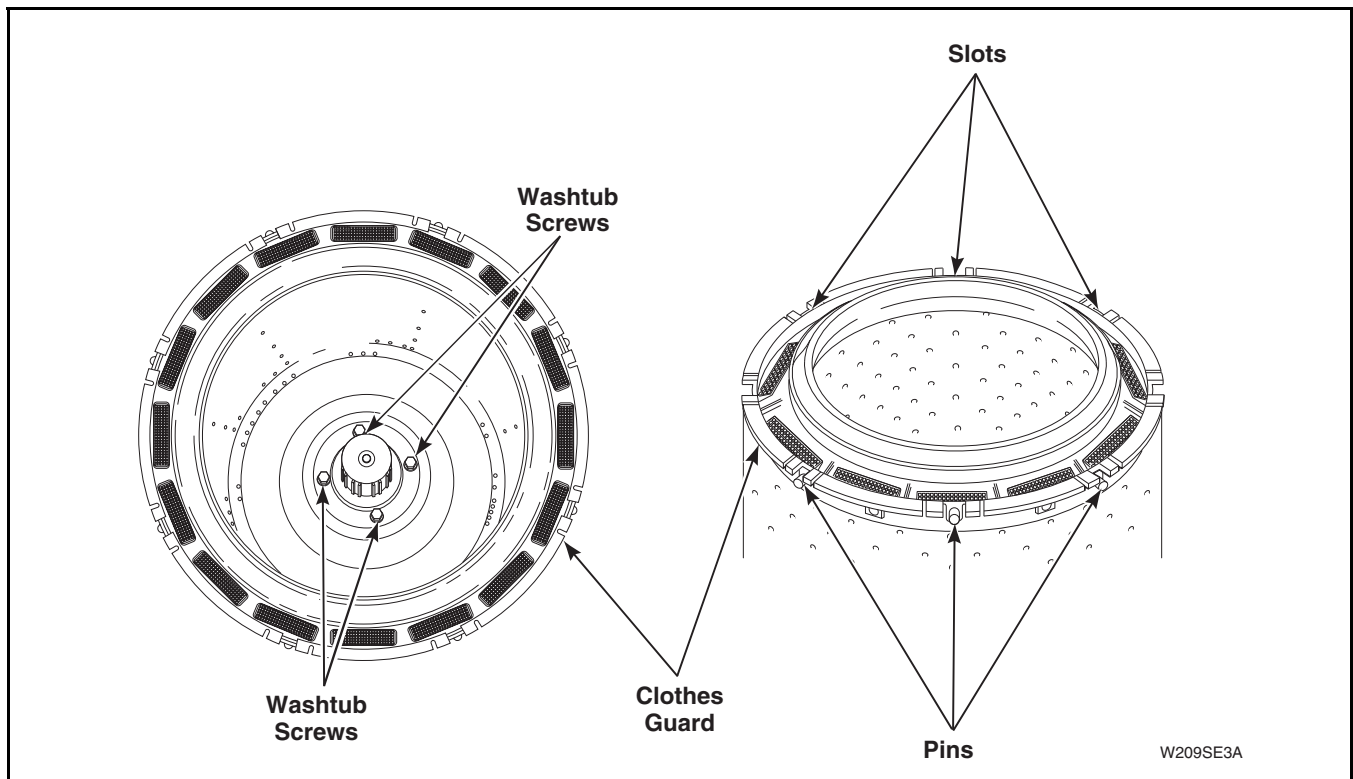

Figure 35
- n. Remove four screws and washers holding washtub to hub. Refer to *Figure 35*.
- a. Place blade of a small screwdriver into slots between clothes guard and washtub. Refer to *Figure 35*.
- b. Carefully pry pins of clothes guard out of holes in washtub. Refer to *Figure 35*.
- h. Remove four screws holding washtub to hub. Refer to *Figure 35*, then lift washtub out of outer tub.